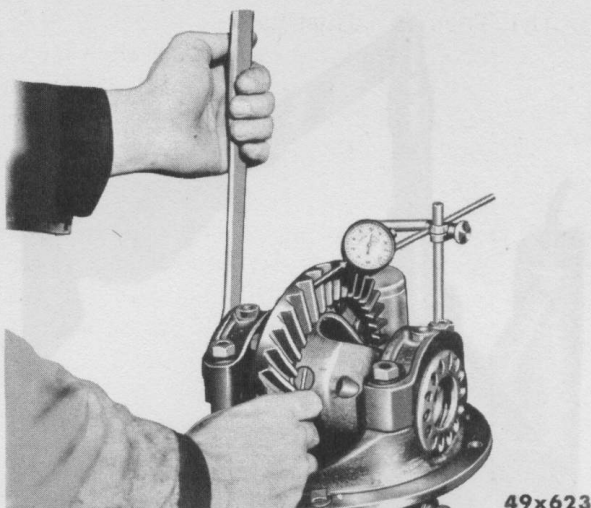

Fig. 20—Tightening Back Face Adjusting Nut
- (g) At the point of least backlash, screw in adjusting nut (at back face of ring gear) until .001 inch shows on gauge, as shown in Figure 20.